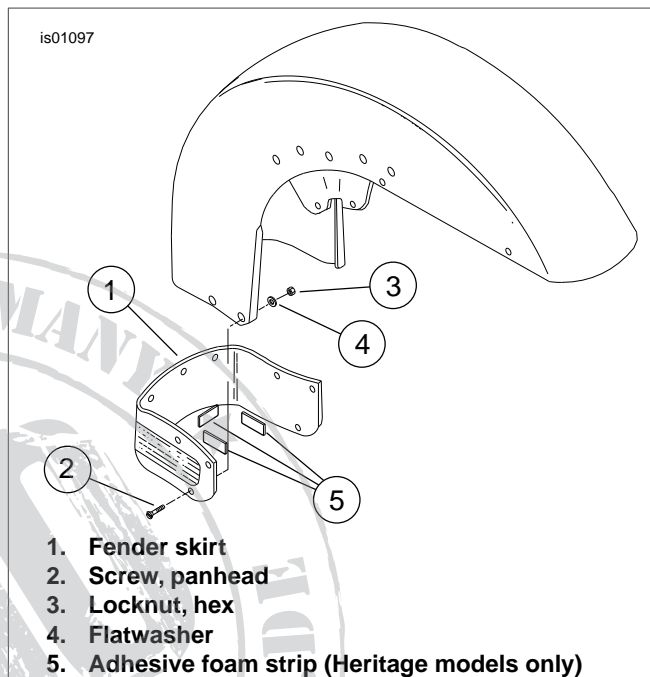

Figure 1. Front Fender Skirt and Assembling Hardware
1. See Figure 1. Remove fasteners (2) from stock fender skirt.